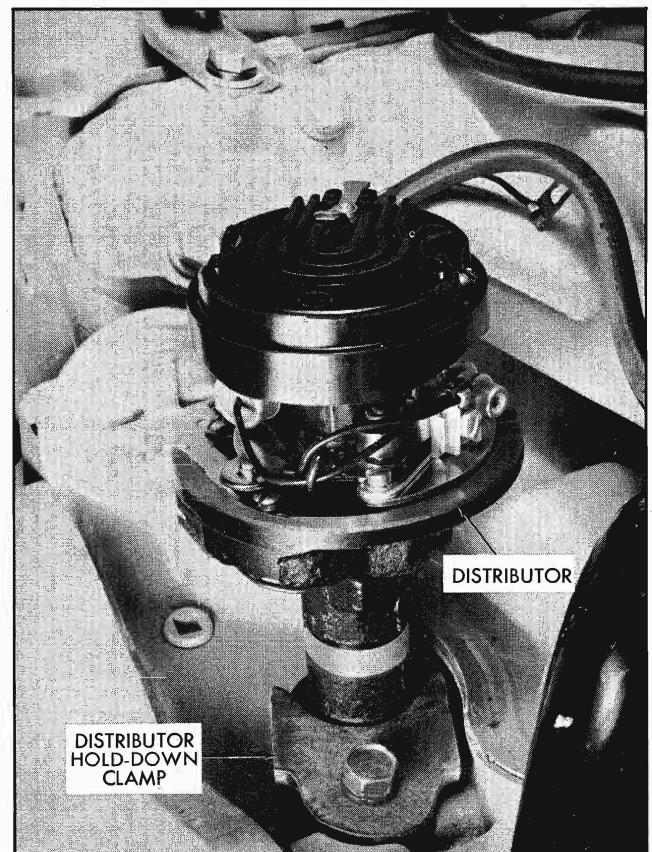

Fig. 6-88 Distributor Properly Installed
c. Install distributor (without cap and wires) so that vacuum diaphragm faces the left side of the engine and rotor arm points toward contact in cap for number six cylinder. It will also be necessary to turn the oil pump drive shaft, using a screwdriver, so it will index with distributor shaft. Distributor and rotor will be positioned as shown in Fig. 6-88 when properly installed.